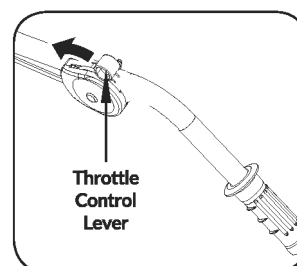

Figure 10
3. Move the throttle control lever slightly forward to about $\frac{1}{4}$ of the way (slightly toward the fast position). (See **Figure 10**)